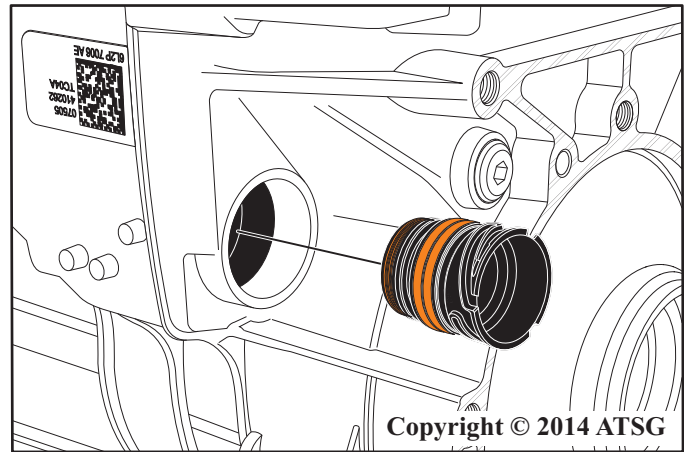

Figure 38
8. Grab the bulkhead electrical connector sleeve and using a twisting motion, carefully remove the sleeve from the transmission case as shown in Figure 38.